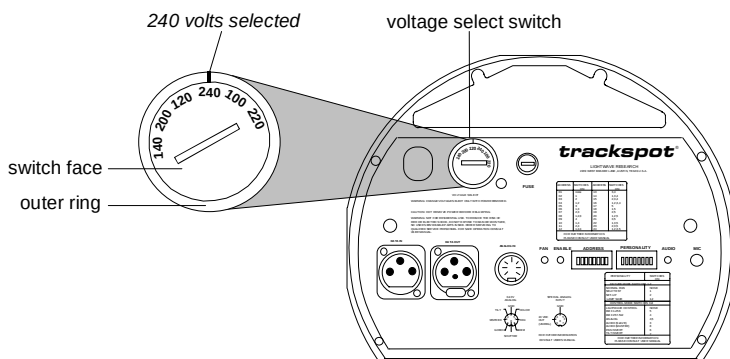

Figure 1-3. Trackspot rear panel
2. Insert a flat head screwdriver into the slot on the voltage select switch located on the rear panel of the fixture (see Figure 1-3).
3. Push the switch face in and turn until the line on the outer ring is pointed at the voltage that is equal to the power source you are using (see Figure 1-3).
4. After setting the correct voltage, make sure that the switch face is flush with the outer ring (see Figure 1-3).